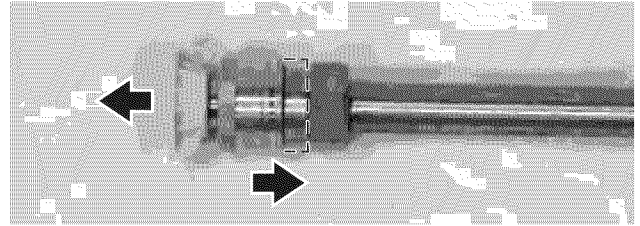

Figure 25 – Installing a Nozzle
2. Pull the quick coupler toward the spray gun (see Figure 25).
3. Push the nozzle into the coupler and push the coupler away from the spray gun (see Figure 25). The nozzle will lock into place. Tug on the nozzle to verify it is locked in place.